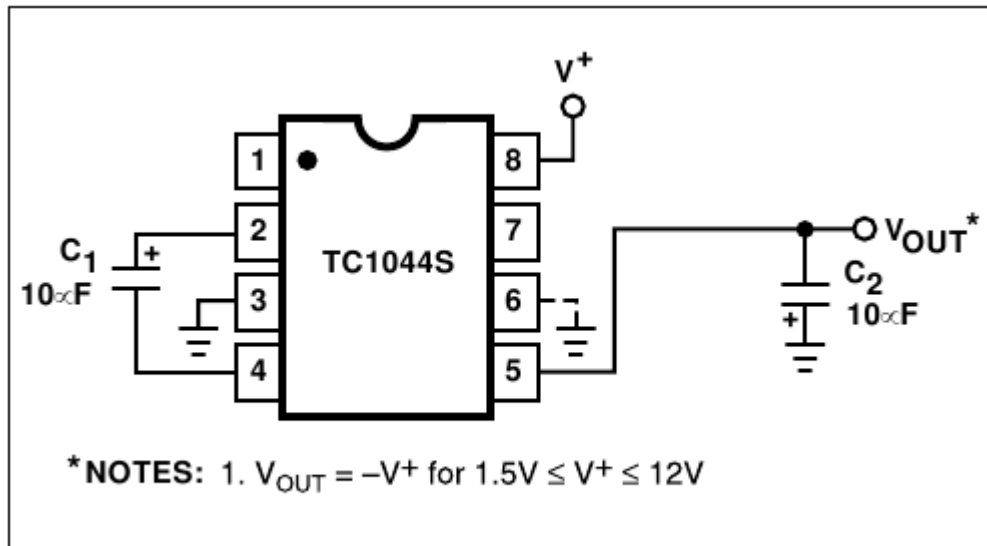

Figure 3. Simple Negative Converter
Figure 3 shows typical connections to provide a negative supply where a positive supply is available. A similar scheme may be employed for supply voltages anywhere in the operating range of +1.5V to +12V, keeping in mind that pin 6 (LV) is tied to the supply negative (GND) only for supply voltages below 3.5V.